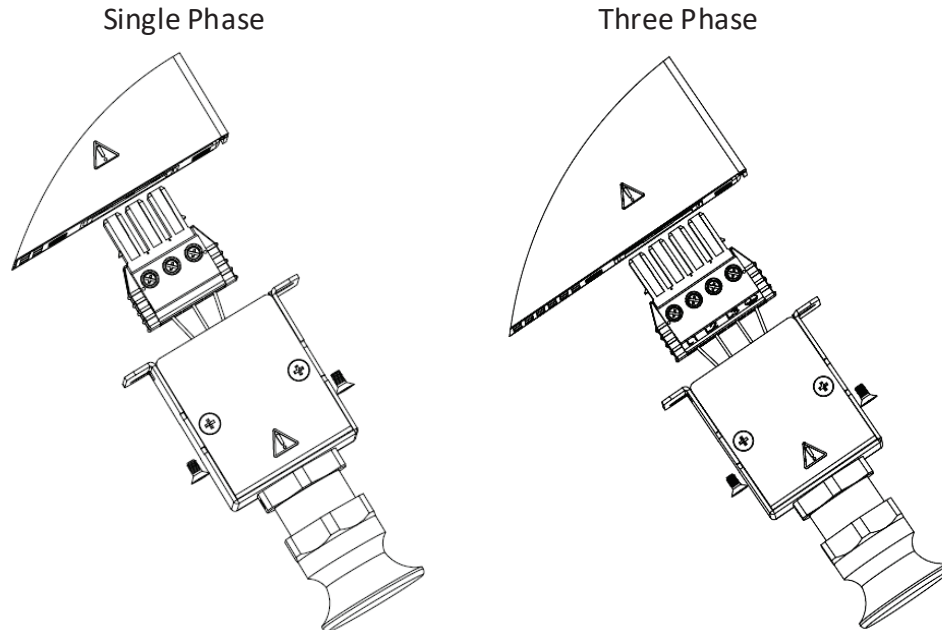

Figure 4-24: AC Wires Fixed to the AC Connector
6. Insert the AC wires into the AC input connector as shown in Figure 4-24.